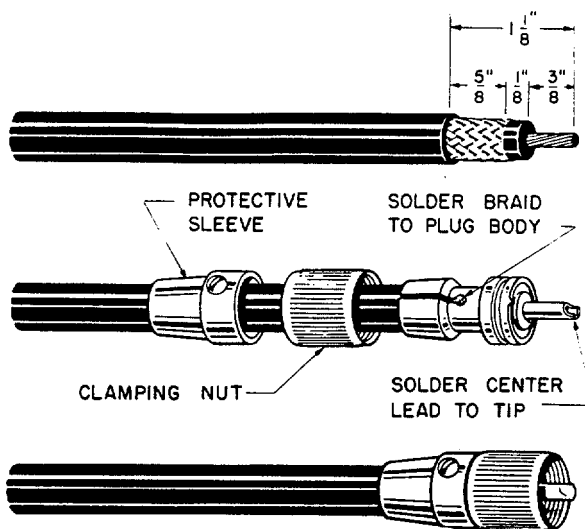

Figure 46. Coaxial connector.
- (2) *Cable W702.* The instructions in (1) above also apply to cable W702, except for the lengths of insulated leads. These lengths include 14 inches for connections to TB804 in the receiver-transmitter, and 12 inches for connections to TB501 in the antenna pedestal.
- (3) *Cable W703.* The instructions in (1) above also apply to cable W703, except for the lengths of the insulated leads. These lengths include 11 inches for connections to TB904 in the indicator, and 10 inches for connections to TB802 in the receiver-transmitter.
- (4) *Cable W704.* The instructions in (1) above also apply to cable W704, except for the lengths of the insulated leads. These lengths include 14 inches for connections to TB903 in the indicator, and 10 inches for connections to TB801 and TB802 in the receiver-transmitter.
- (5) *Cable W705.* Both ends of cable W705 must be terminated by a coaxial connector plug. Refer to figure 46.
- (j) Solder the center conductor to the tip of the plug body. Also, run solder into the body at the point indicated in figure 46. This will solder the body to the braid.
- (6) *Cable W706.* The instructions in (5) above also apply to this cable.
- (7) *Cable W707.* The instructions in (1) above also apply to cable W707, except for the lengths of the insulated leads. These lengths include 11 inches for connections to TB905 in the indicator, and 2 inches for connections to TB602 in the voltage regulator.
- (8) *Cable W708.* Cable W708 is not used in this installation.
- (9) *Cable W709.* Refer to (1) above for instructions on cutting this cable. Allow the following lengths for making insulated conductors, and perform the following additional procedures: